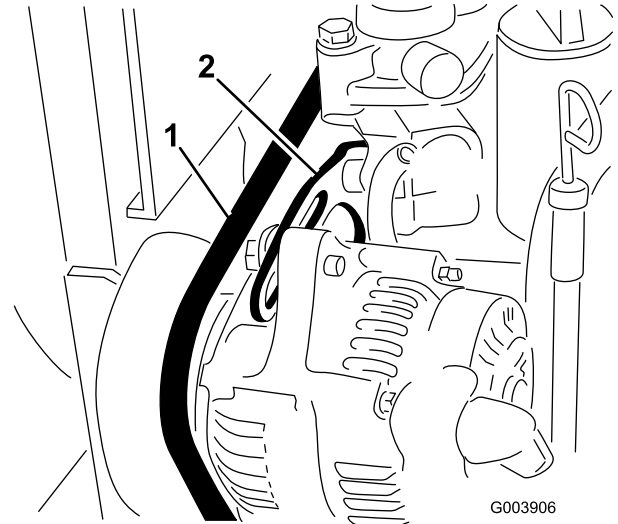

Figure 69
2. Check the tension of the alternator belt by depressing it (Figure 69) midway between the alternator and the crankshaft pulleys with 22 lb (10 kg) of force.
3. Loosen the bolt securing the brace to the engine (Figure 69) and the bolt securing the alternator to the brace.